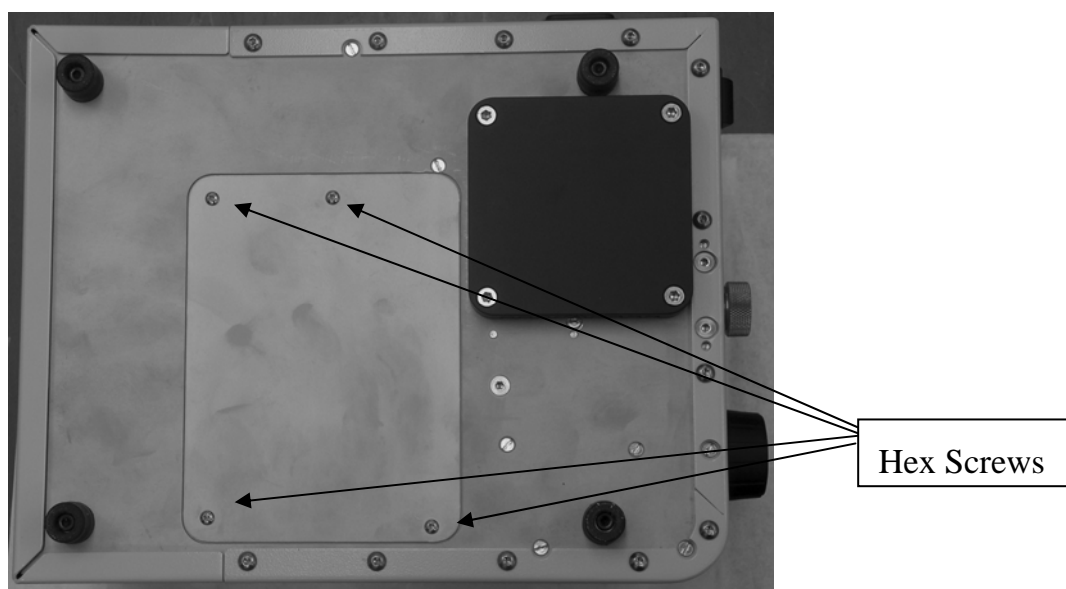

Figure 4.1a Bulb housing.
3. Unscrew the four Hex screws and remove the panel, as indicated in Figure 4.1a below.